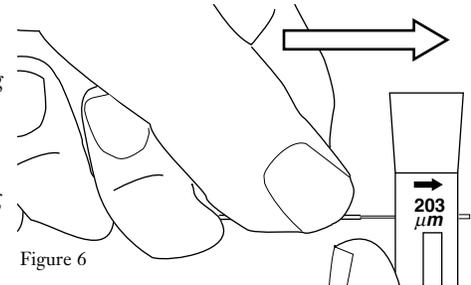

Figure 6
- or place your right thumb along the left side of the tool. Push the No-Nik tool along the fiber axis in a smooth, straight stroke to slide the severed piece of coating off of the fiber (Figure 6).